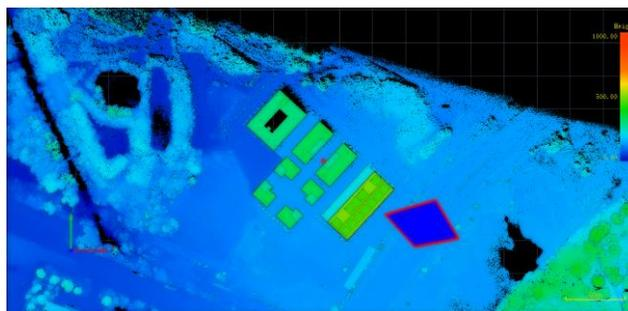

Figure 3-106 Polygon Selection
- (1) Click the menu <Tools> → <Polygon Selection>.
- (2) Click the left mouse button to draw polygons in different locations in the view, double-click the left mouse button to end the drawing, the points within the polygon will be in the selected state and change the color (Figure 3-106).
- (3) The selected state of the point cloud color can be set in <File> → <System Settings> → <Selected Points Color>.